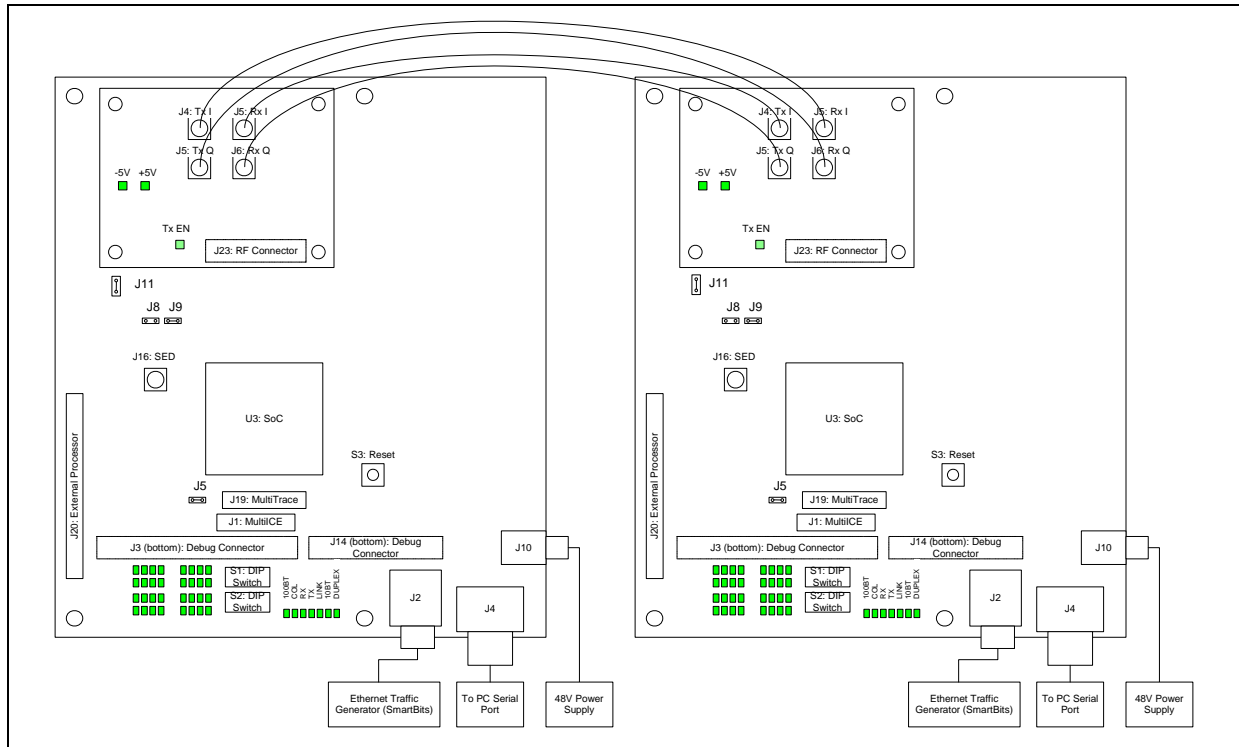

Figure 4: Baseband Traffic Test Configuration
1. Configure two (2) SoC Reference Boards as shown in Figure 4.